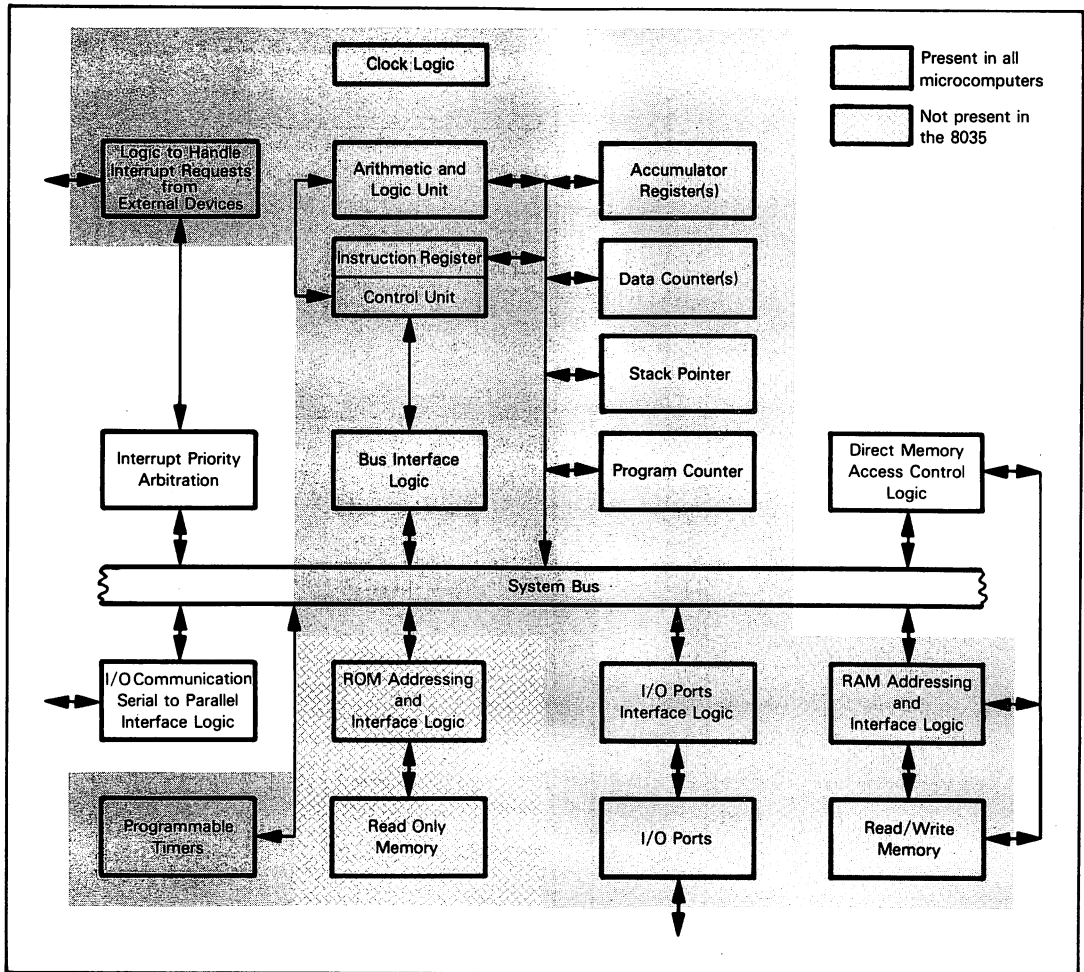

Figure 6-1. Logic of the 8048 Series Microcomputers
**Functions implemented on the three versions of the 8048 microcomputer are illustrated in Figure 6-1. With the exception of the 8035, you will see that complete microcomputer logic is provided within a single package. But remember, just because a function is present in Figure 6-1, that does not mean to say it will be sufficient for your application. For example, read/write memory is shown as present, yet there are only 64 bytes of read/write memory on any 8048 series microcomputer chip.**